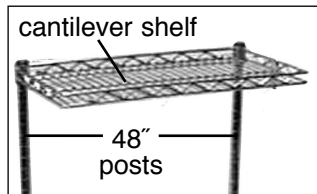

Figure 5
- Insert 48" posts through cantilever shelf collars and slide shelf down onto split sleeves (see *Figure 5*).